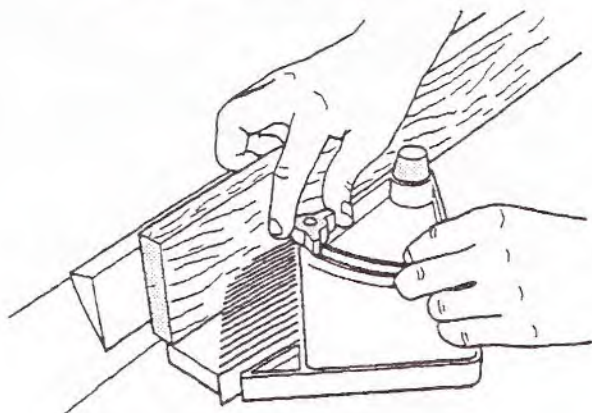

Fig. 24
1. Loosen the feather guard's stop knob (15) with stop pin (14).
3. Insert the workpiece between the fence and the feather guard, as shown in Fig. 24.